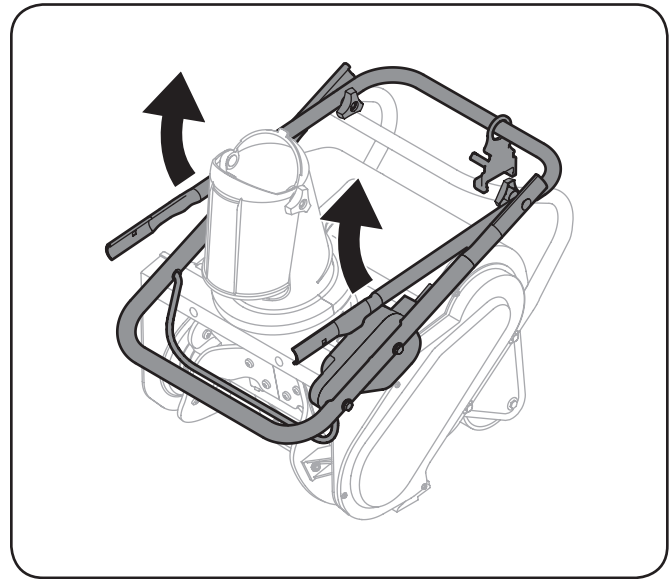

Figure 3-2
2. Unfold the upper and middle handles as shown in Fig. 3-2.